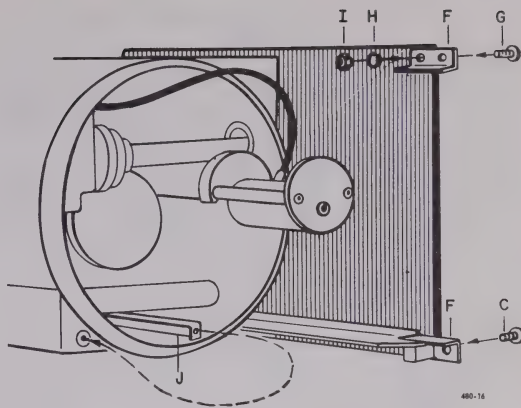

Figure 2-6.
b. Remove and retain the left-hand bracket screw (C) at the bottom of the oscillator. Remove and retain the two, right-hand side, end-frame screws (D) of the power supply. Remove the two 1/16-inch thick spacers (E) from the power supply.
d. Remove the spacer bracket (J) from inside the oscillator and attach it to the threaded hole on the frame of the oscillator (Figure 2-6).
e. Attach the two brackets (F) to the left-hand side of the oscillator. Use screw (G), lockwasher (H), and nut (I), furnished with the power supply, at the top. Use screw (C), removed in step b, at the bottom.